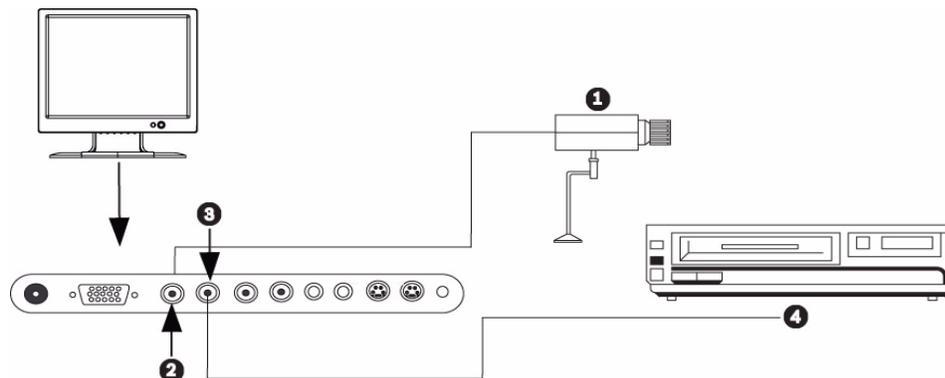
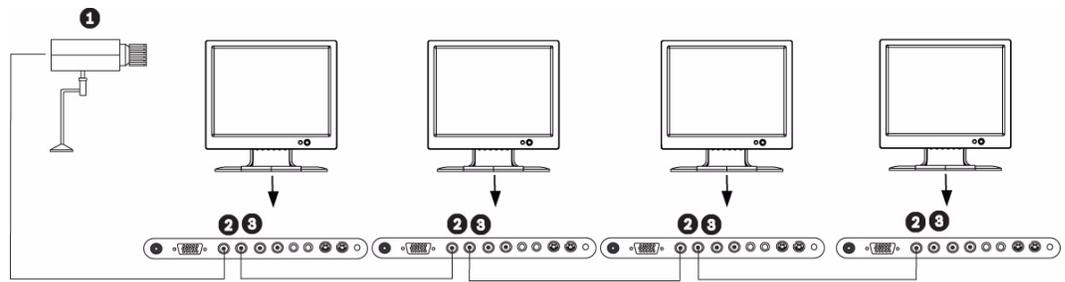

Figure 6.5 Single Monitor Configuration
Figure 6.6 Multiple Monitor Configuration
NOTE: All video inputs are passive loop-through. The impedance is automatically set to 75 ohm by the input of the signal on the input connector, while operating in a single connection mode (see *Figure 6.5*). If a cable is also connected to the output connector, the video signal can be passed on to another monitor connected to it via the passive loop-through function. Up to three (3) looping monitors may be connected in this manner (see *Figure 6.6*).